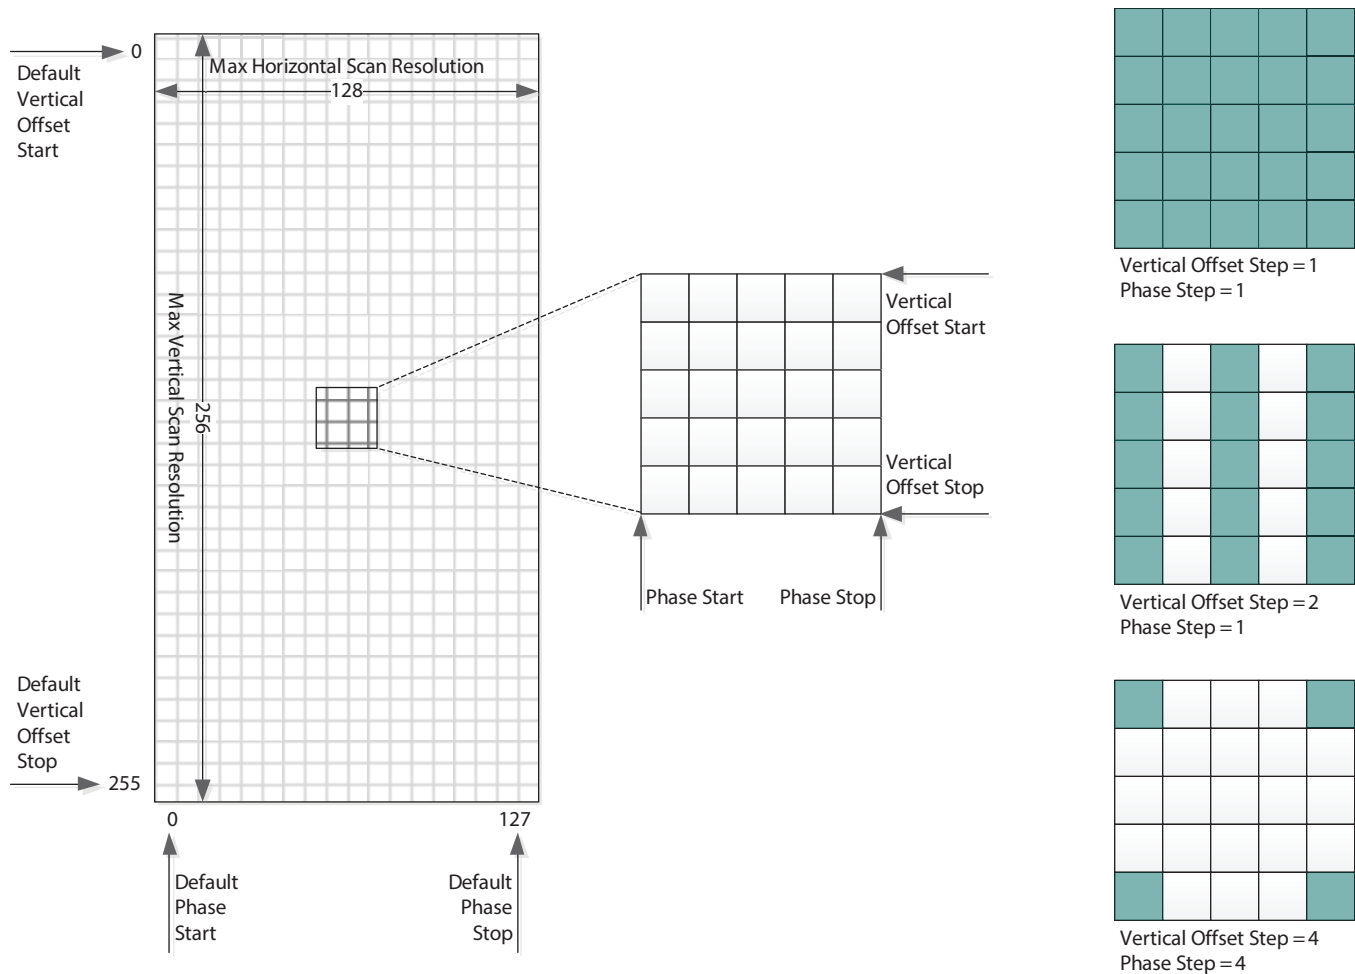

Figure 4-7: Eye Scan Matrix Parameters
Figure 4-7 shows a visual representation of the scan matrix and indicates the spatial parameters that determine the scan area and resolution. Running a scan using the default offset and step parameters, results in 32768 (128x256) samples. The number of samples and thus, the total scan time can be reduced to meet the needs of the application. The scan area can be reduced by reducing the span determined by the vertical and phase start and stop offsets. Or, the resolution can be reduced by increasing the step size between adjacent samples. On the right in Figure 4-7, there are three step settings used as examples, however there are a total of nine combinations possible. See Table 4-6 for the register addresses and parameter names of the spatial eye scan parameters.
Figure 4-7 illustrates an example of an eye scan, where the sampled eye data is not centred within the scan matrix. The eye scan data has an arbitrary centre phase relative to the centre of the matrix which is determined when the Eye Monitor is powered-up. While the Eye Monitor remains powered, subsequent scans will maintain the same relative phase allowing for consecutive scans to be compared for changes.
- ♦ Making reference to the Matrix shown in Figure 4-7, the eye scan data starting at 0x6C02 is stored in order from left to right, top to bottom, from the last stored vertical/horizontal position in the matrix